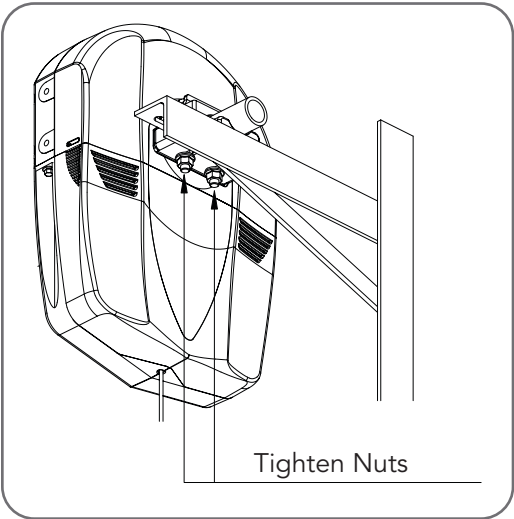

Fig 6.3
- i. Using your reference marks as a guide, sit the opener on the door mounting bracket and secure with the opener's bolts and saddle and tighten firmly (**Fig. 6.3**).